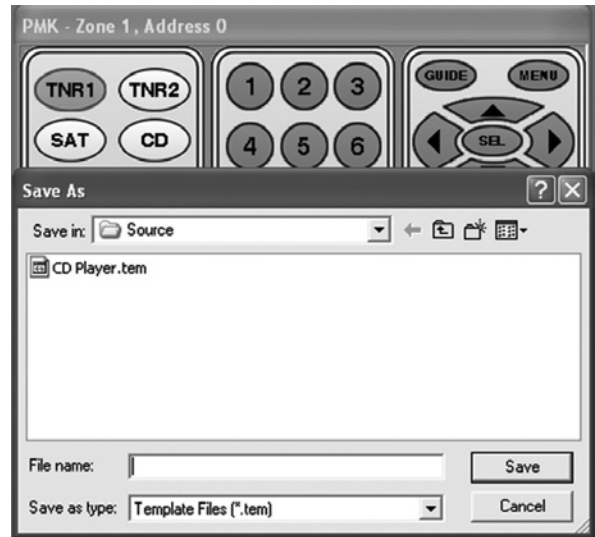

Figure 27 Saving a source template File
3. At this point, type a File name by which you want to identify that particular source (i.e., “CD Player”) and then click **Save**. This will add the file to the Source folder in the Templates subdirectory. Refer to Figure 27.